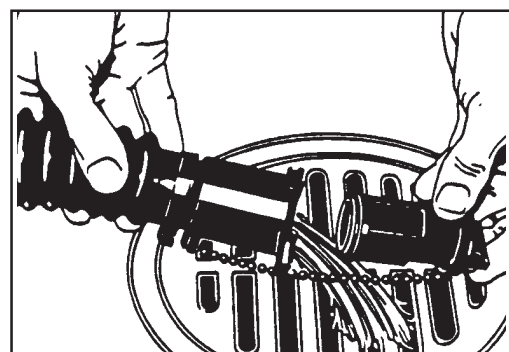

Figure 28
- 2.) To open the valve completely, turn the handle to the right. Pull the handle out of valve (Figure 28).